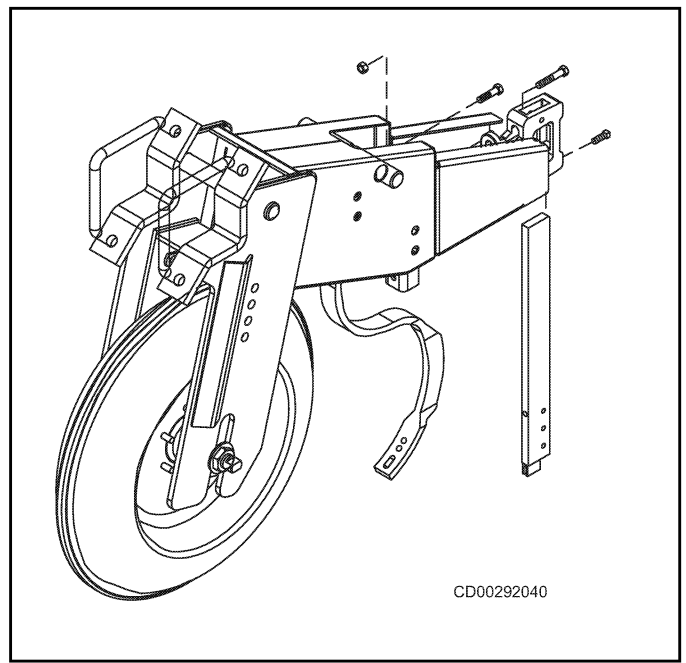

Figure 19 King Guide Shank Extension
3. Attach extensions to the king guide struts (Figure 19).